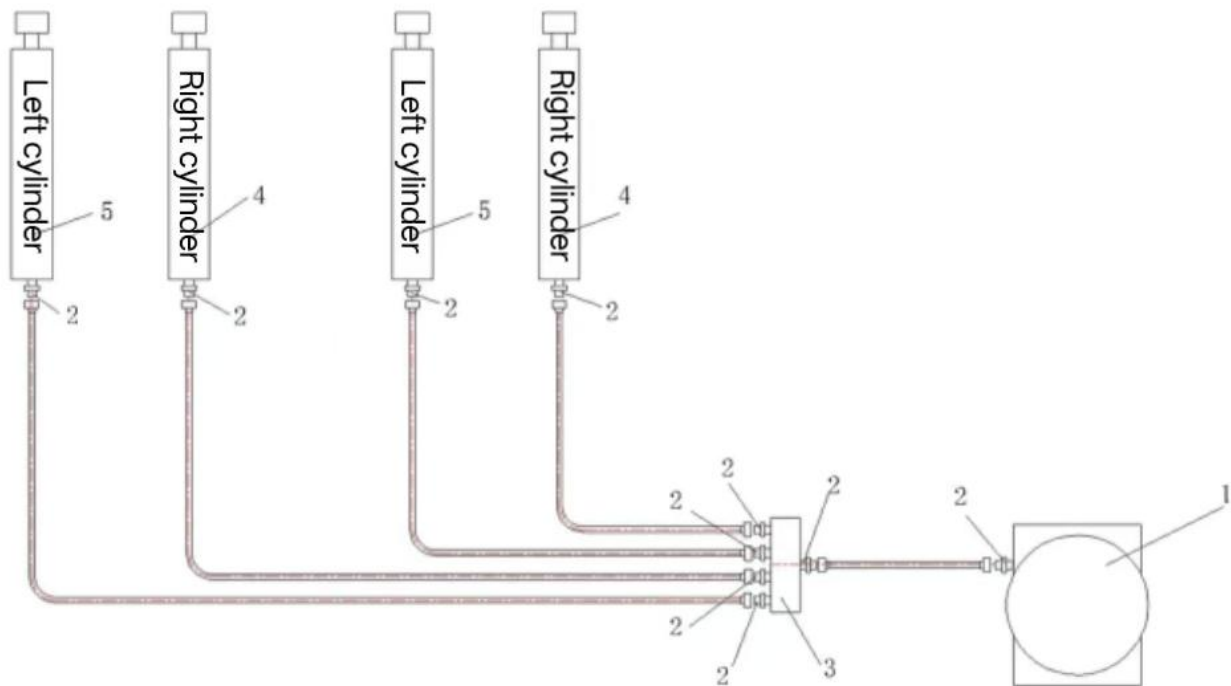
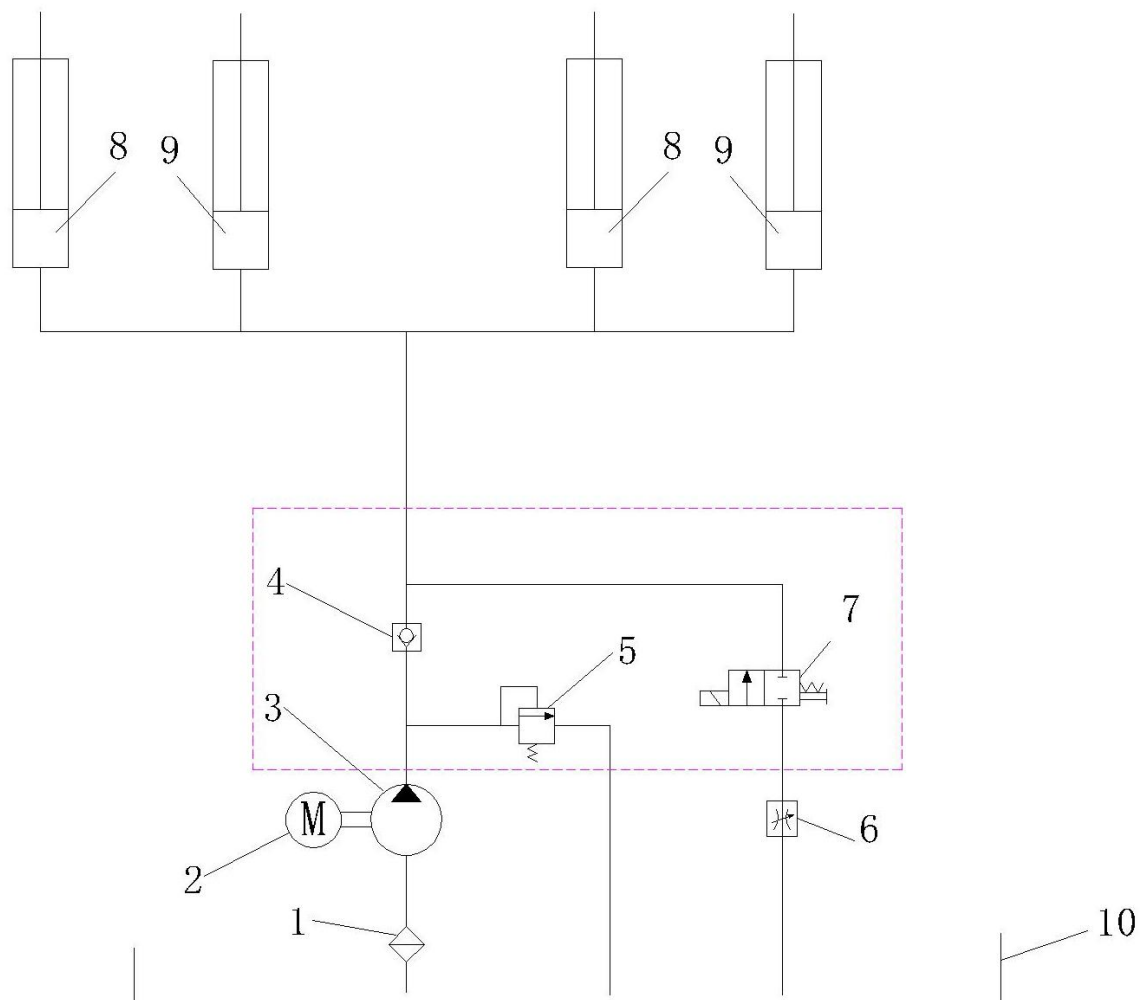

Figure 5 Hydraulic system connection diagram
Figure 6 Hydraulic system schematic diagram
- Referring to the hydraulic system connection diagram (Figure 5), connect the oil pipes of the four cylinders to the reserved interface on the hydraulic valve block. Note that when connecting the hydraulic valve plate, pass through the reserved hole at the bottom of the control box. Finally, check whether all connections are sealed.
The hydraulic system of the hoist is housed within the control cabinet. When the cabinet door is opened, the hydraulic unit becomes visible. The connections between the motor, integrated block, valves, and cylinders follow the hydraulic system diagram (Figure 5). According to the hoist's hydraulic system schematic (Figure 6), adjusting the "overflow valve" can modify both system pressure and lifting capacity. Note that the system pressure is pre-adjusted at factory and must not exceed the rated load during adjustments.